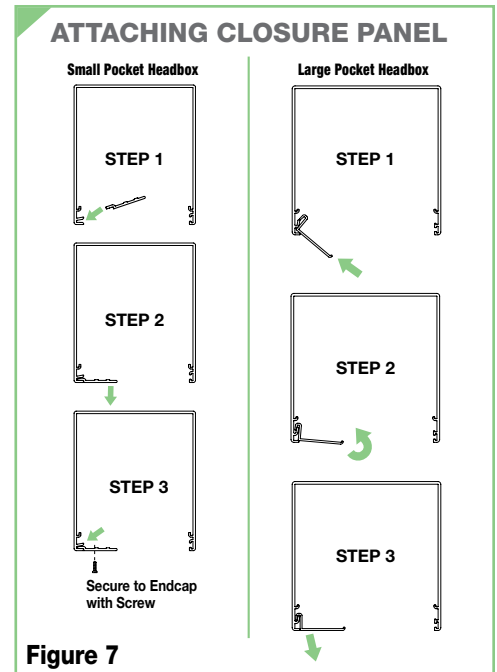

Figure 7
6. Attach headbox fascia or pocket closure (Fig. 7).